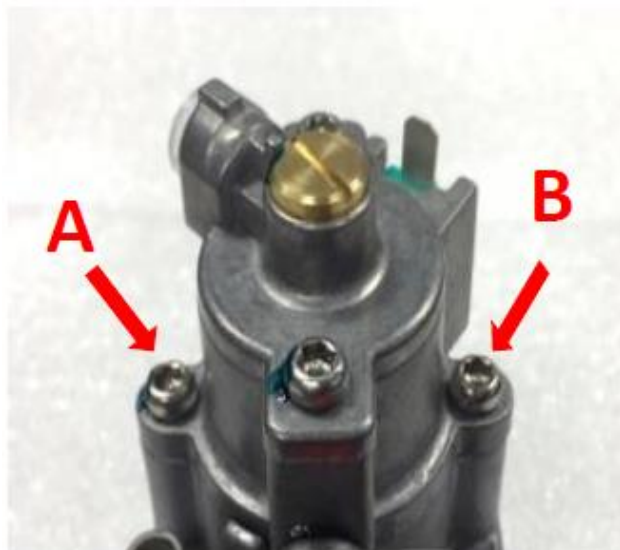

Figure 1
2. With a tamper proof T20 Torque Driver remove two screws identified as A & B in figure 1 & 2 from the regulator solenoid assembly.